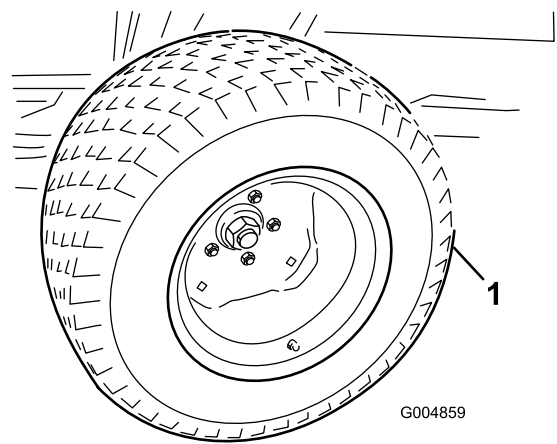

Figure 113
24. With the winter frame against the rear frame, raise the floor jack enough to remove the summer drive tires (Figure 113). Install the winter tires with 2 lug nuts per side.